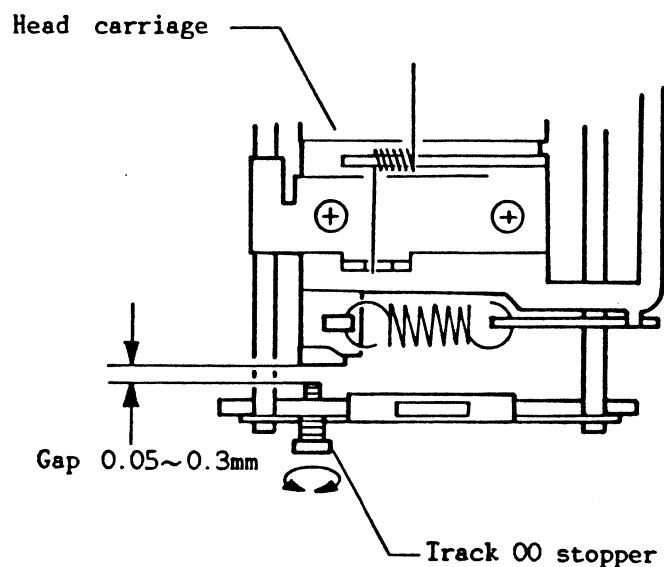

Fig. 415 Adjusting Track 00 Stopper
- (2) Start the spindle motor and insert the work disk.
- (3) Check whether or not the voltage at TP9 is 0.5V or less after the head is shifted to track 00.
- (4) Shift the head to track 04.
- (5) Check whether or not the voltage at TP9 is 3V or more after the head is shifted to track 04.
- (6) If the voltage in items (3) and (5) above are not within the specified range, adjust the track 00 sensor position using the following procedure.
- (a) Loosen the track 00 stopper mounting screw (refer to Fig. 415) and move the stopper in the step-out direction (away from the back part of the head carriage).